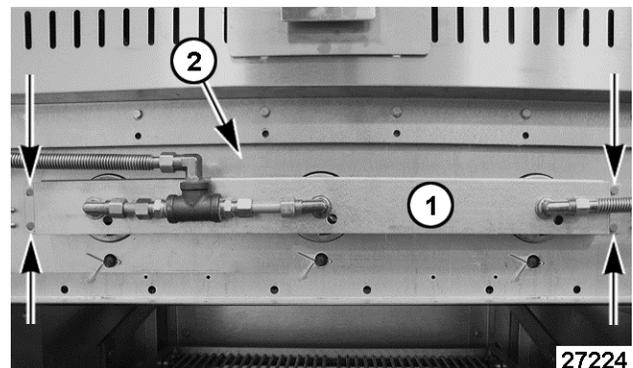

Fig. 14
- Remove screws securing manifold bracket [1] Fig. 14 to burner support [2] Fig. 14. Allow bracket to drop down out of the way.